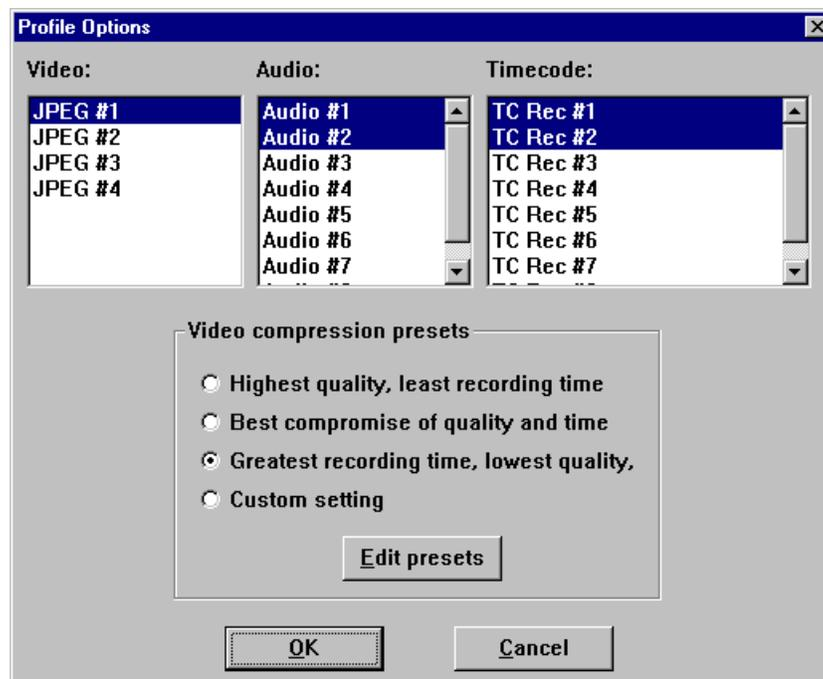
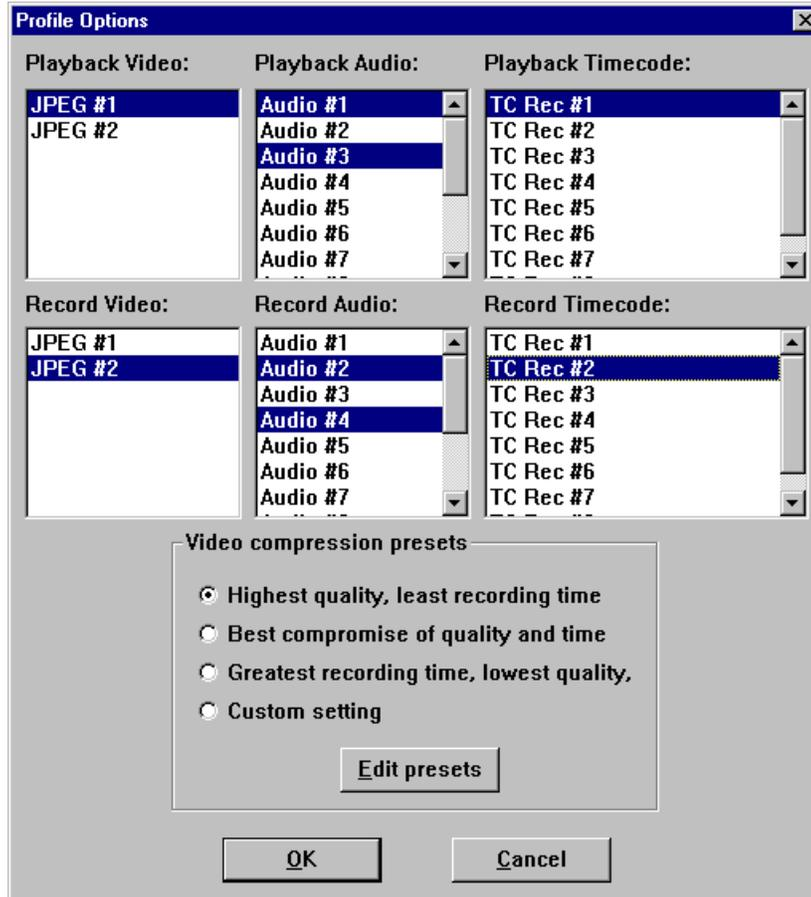

Figure 75. Profile Options dialog box
Figure 76. Profile Options dialog box (BVW [insert-edit] only)
2. Choose **Controller | Configure** to open the Profile Options dialog box for the selected panel. Figure 75 illustrates the standard Profile options with an example configuration selected; Figure 76 illustrates the Profile Options dialog box for BVW [insert-edit], also with appropriate selections shown in the example.
2. Choose **Controller | Configure** to open Profile Options (see Figure 75 on page 138).